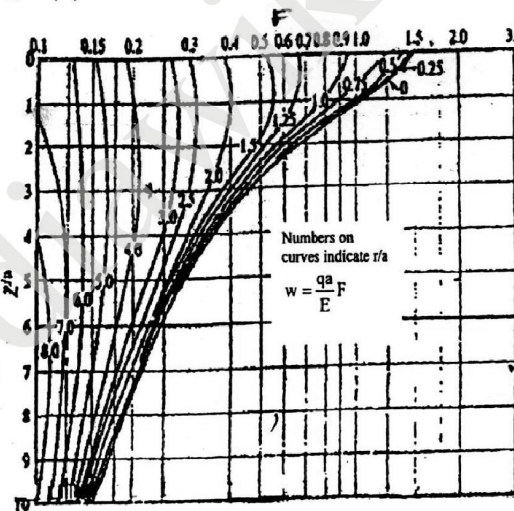

Fig.Q.2(b)
- b. A dual wheel load assembly with 70kN load on each wheel and contact pressure of 0.7kN/mm² is applied on a homogeneous mass with modulus of elasticity 12N/mm². If the centre to centre distance between the two wheel is 600mm, determine the deflection value at a depth of 0.5m at four points, at the centre of dual wheels and at radial distance of 300, 600 and 900mm from this centre along the line joining centers of the two wheel loads. Use deflection factor chart Fig.Q.2(b). (08 Marks)